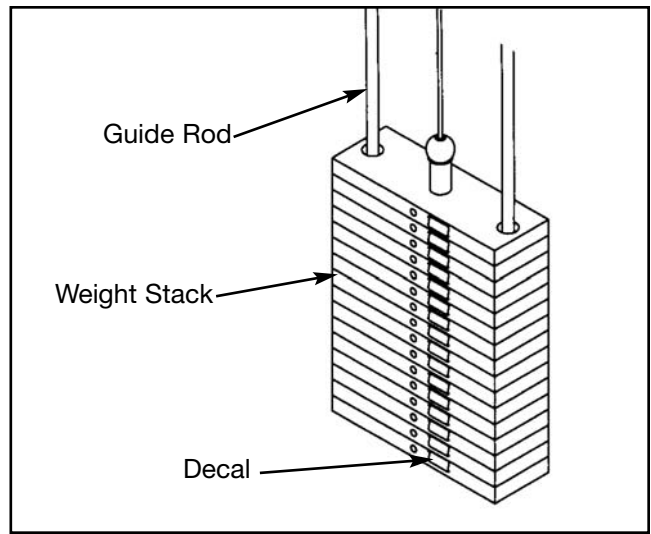

Figure 19
(see steps 9A - 9H, Figures 19 and 20).
- G. Carefully remove front side, leaving decals adhering to weight plates. See Figure 19.